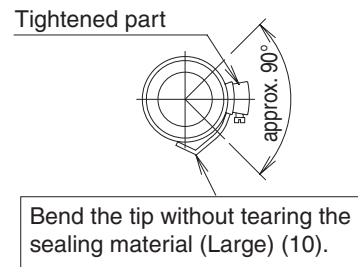

Fig. 16
- Do not tighten the metal clamp (2) with the torque more than the specified value. The drain hose (1), the socket or the metal clamp (2) may be damaged.
- Wrap the vinyl tape around the end of the metal clamp (2) so that the sealing material (Large) (10) to be used at the next process may not be damaged with the clamp end or bend the tip of the metal clamp (2) inward as shown. (Refer to Fig. 16)